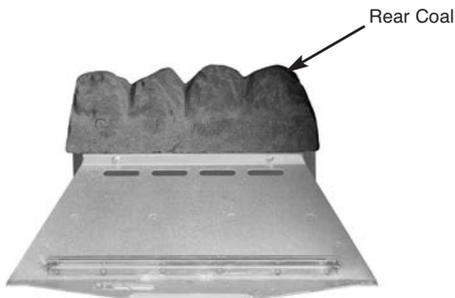

Fig. 29
1. Place the rear coal on the rear coal retainer ledge in a central position (Fig. 29).